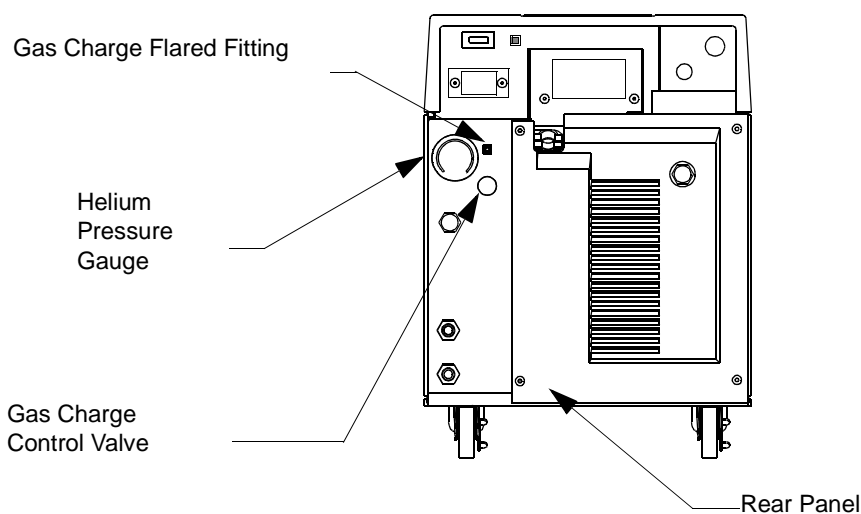

Figure 5-3: Helium Pressure Control Components
1. Remove the flare cap from the gas charge fitting as shown in Figure 5-3.